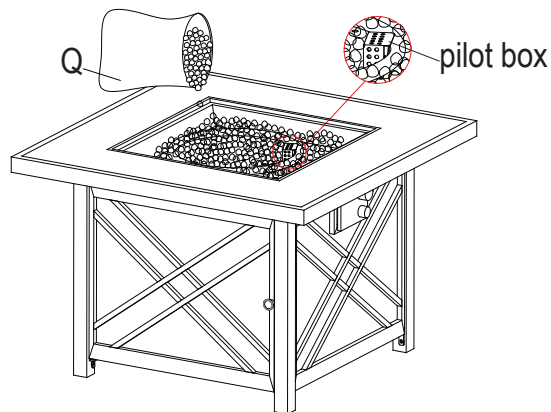

Figure 10
10. Put lava rock (P) around the burner, then remove the label from pilot box (see Figure 10). A gas fire pit requires 13.2 lbs lava rock. **NOTE: DO NOT completely cover the burner element or block the pilot box with the lava rocks. When the first use, preheat the lava rocks for 15 minutes to burn out the impurities and air in the natural lava rocks.**